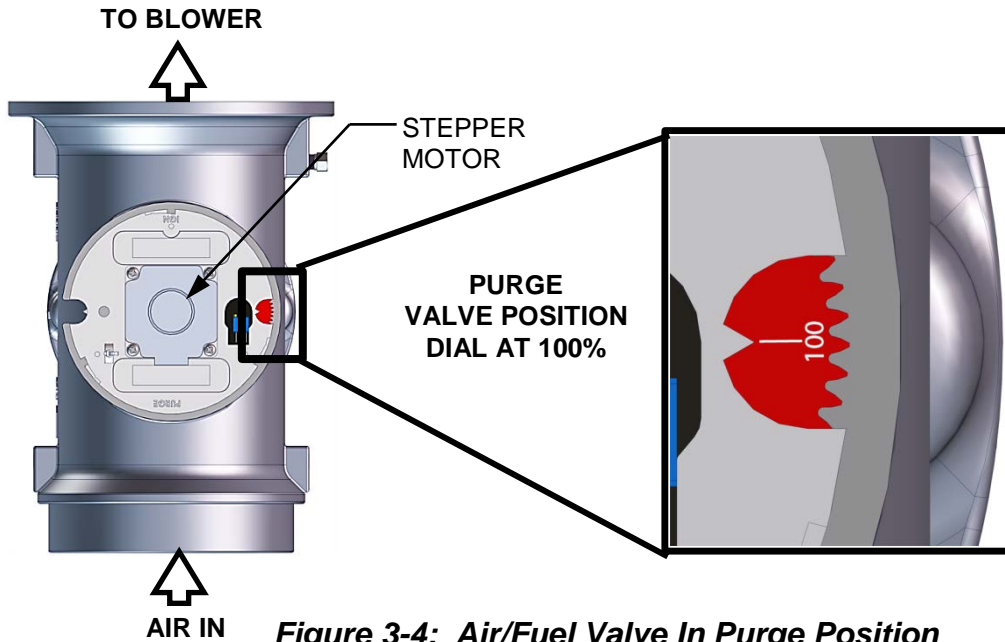

Figure 3-4: Air/Fuel Valve In Purge Position
- b. The Air/Fuel Valve rotates to the full-open purge position and closes purge position switch. The dial on the Air/Fuel Valve (Figure 3-4) will read **100** to indicate that it is full-open (100%).